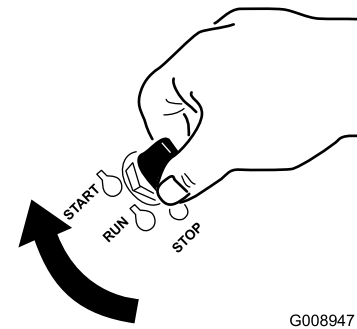

Figure 18
1. Turn the ignition key to the START position (Figure 18).